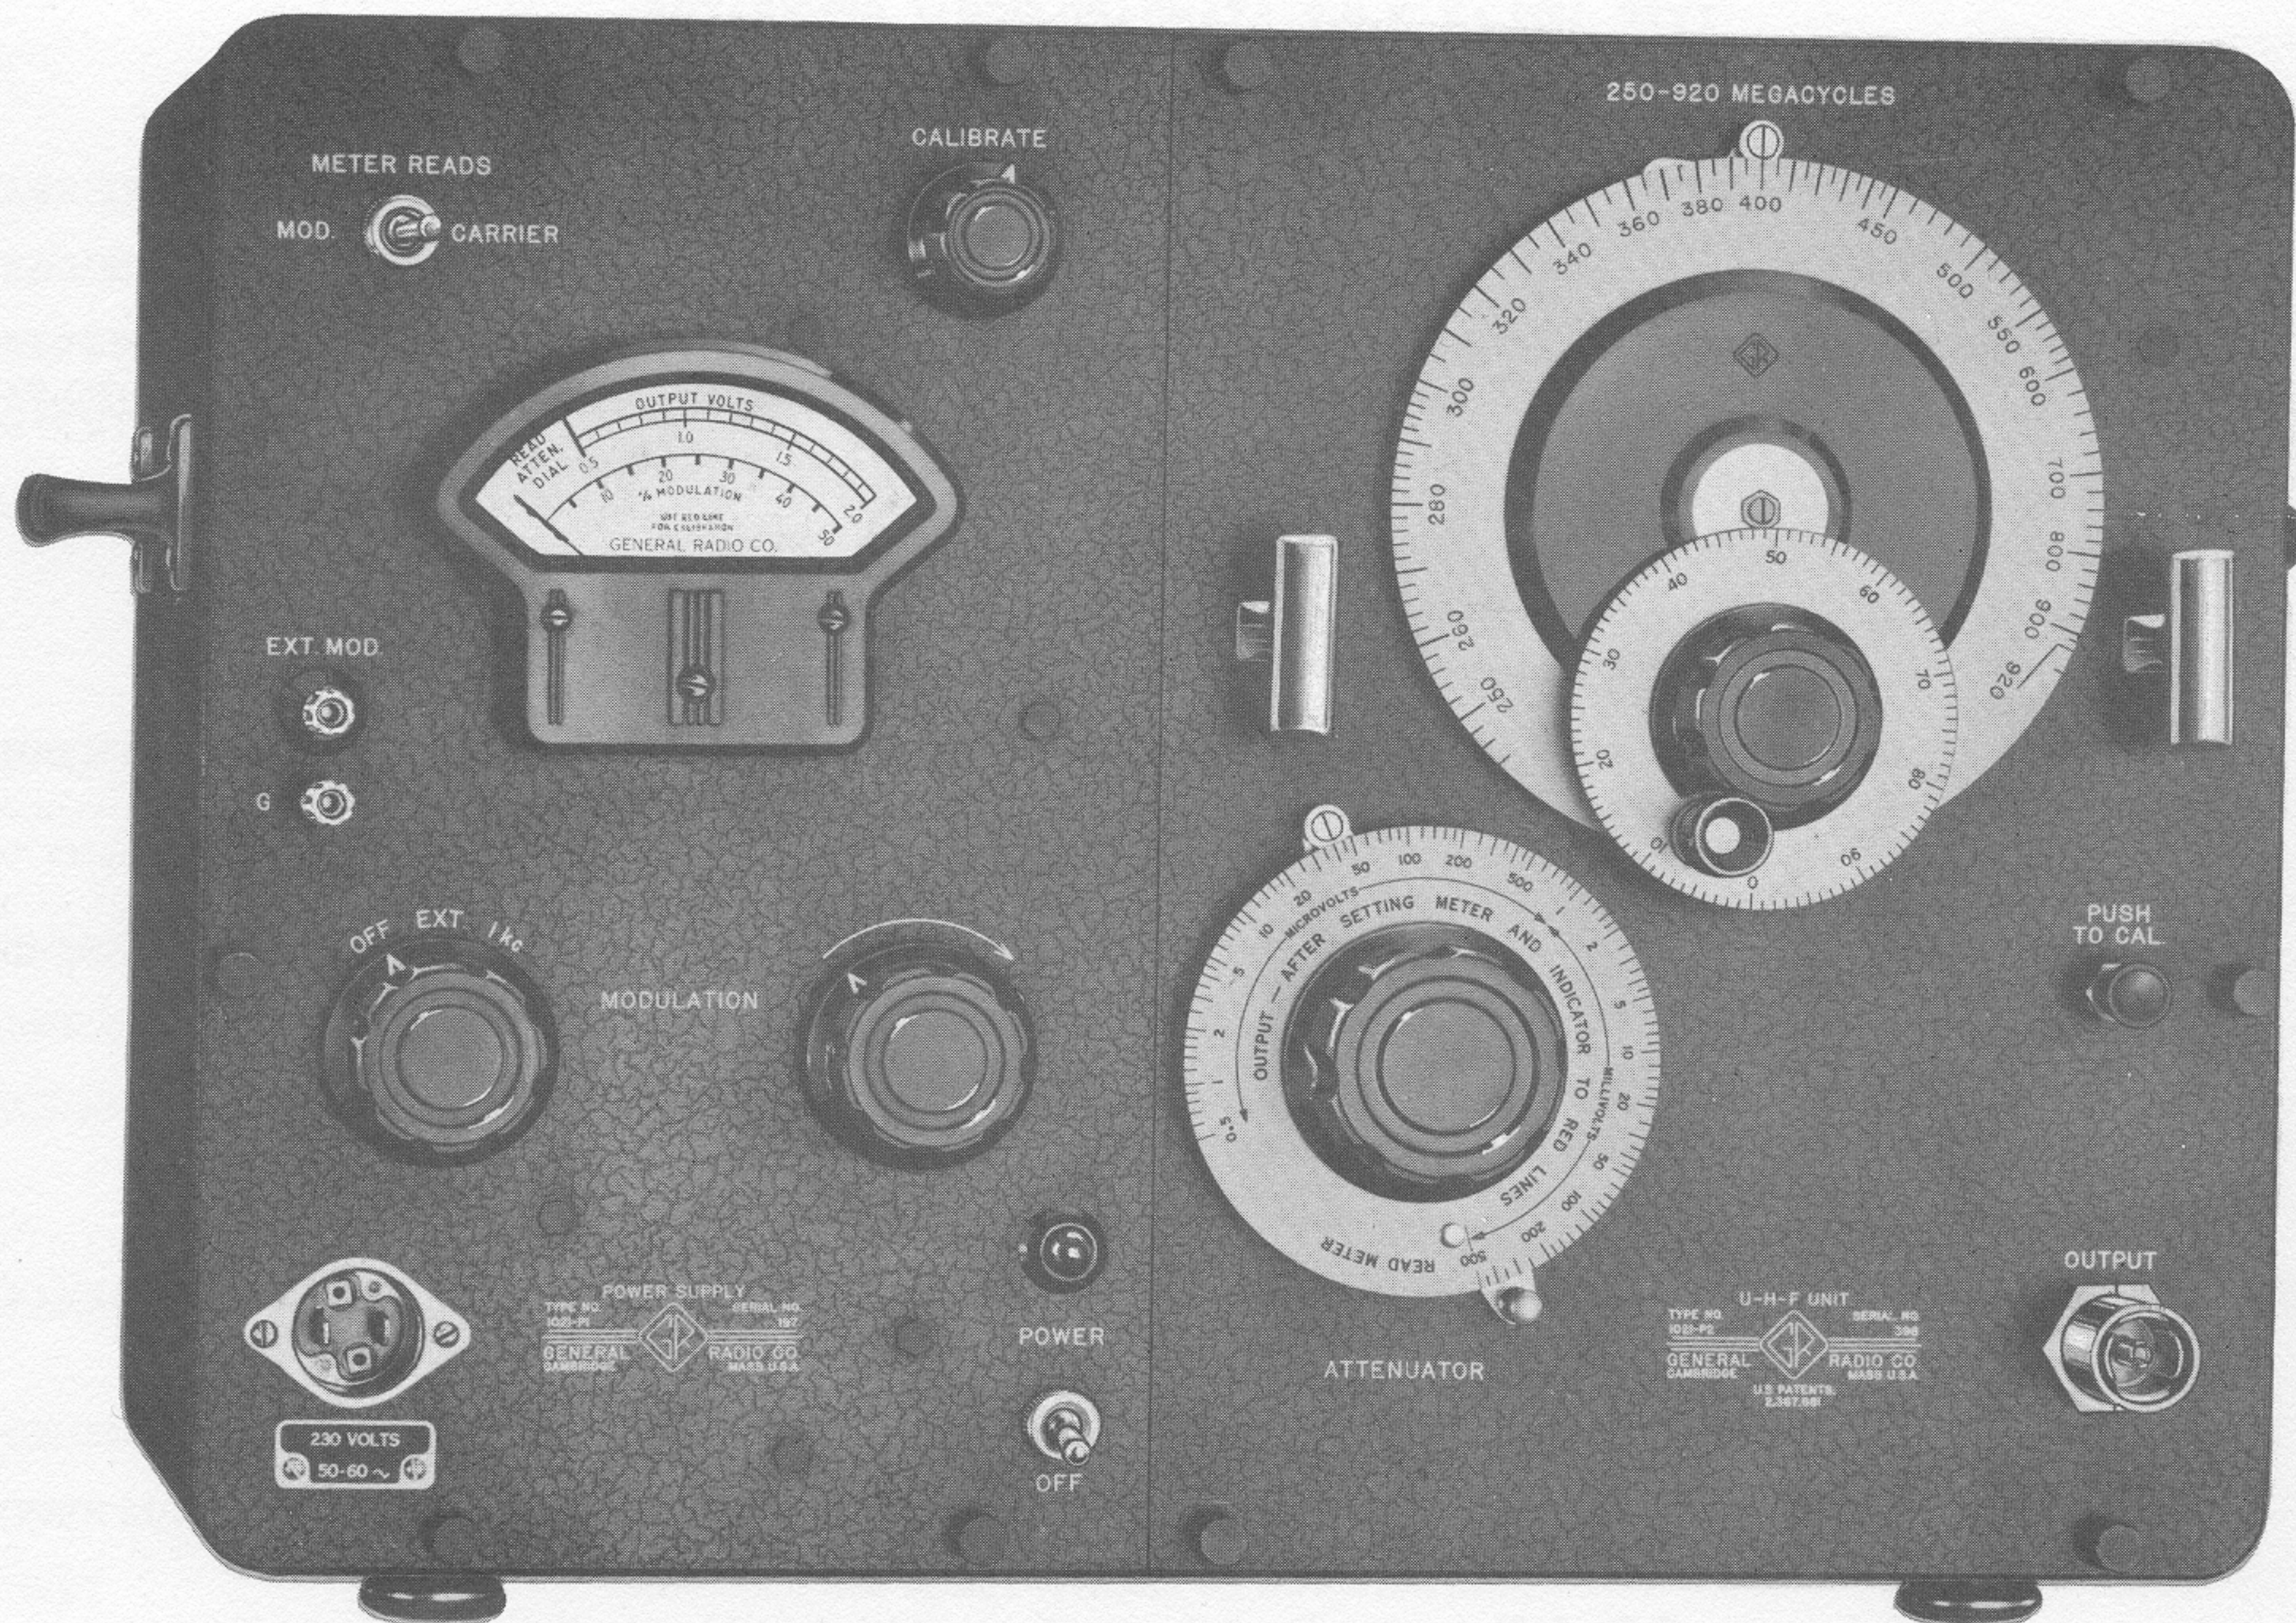

Figure 1. Type 1021-AU Standard-Signal Generator.
NOTE: A third unit, the Type 1021-AW U-H-F Standard-Signal Generator, for 900 to 2000 Mc, has recently been made available. This instrument, similar in appearance and performance to the lower-frequency generators described in this book, uses a Type 5675 pencil tube as the oscillator and is tuned by shorting elements in the transmission-line section. To avoid incidental frequency modulation, square-wave modulation from an external source is used. The Type 1021-AW Standard-Signal Generator consists of the Type 1021-P1 Power Supply and the Type 1021-P4 U-H-F Unit, mounted in the same cabinet as shown in Figure 1.
1.1 GENERAL. The Type 1021-AU Standard-Signal Generator (Figure 1) consists of a Type 1021-P2 R-F Unit and a Type 1021-P1 Power Supply, combined in a single aluminum cabinet. Its frequency range of 250 to 920 Mc is covered in a single band.